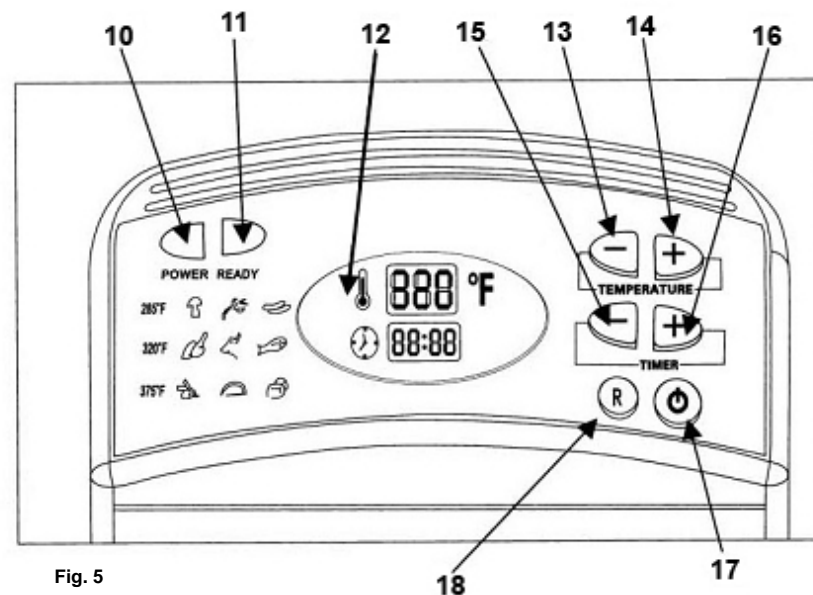

Fig. 5
- Set the required temperature – The temperature is adjustable from 155 °F to 385 °F in 5°F increments. If you want to elevate the temperature, press the "+" button. When you press the "+" button the unit will beep. If you want to lower the temperature, press the "-" button. When you press the "-" button the unit will beep and the upper screen will display the temperature that you set. When the set temperature is reached, the green ready indicator light come on. (Fig. 5)